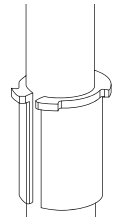

FIG. 1.3
i. Slip rubber sleeve around the vertical frame post, turning the rubber sleeve so the opening faces away from the generator. (Fig. 1.3) Select installations may not allow the rubber sleeve mouth face outward, this is Ok.